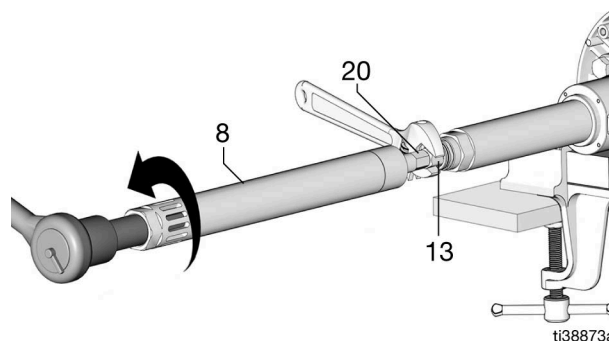

FIG. 9
11. Using a 3/4 in. wrench, loosen and unthread the shovel rod (20), leaving the shovel rod inside of the inlet pump cylinder (8) (FIG. 9) and set aside.